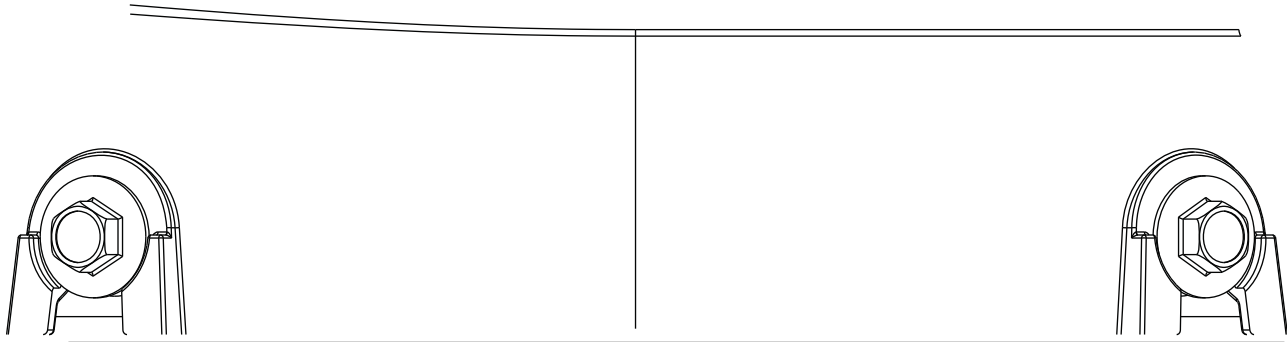

Figure 5-3 Verify Alignment of All Six Blower Housing Screws Before Tightening.
**NOTE:** To be sure that blower housing is properly aligned, verify that washer head of each screw appears as shown in Figure 5-3.